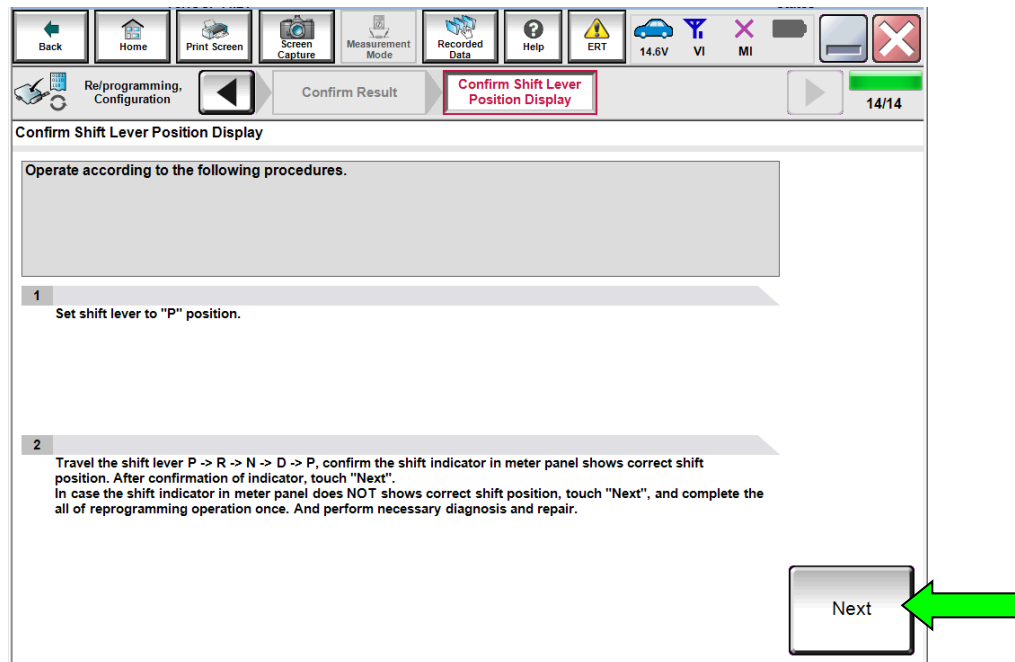

Figure 20
- Follow the C-III plus on-screen instructions (example in Figure 20); move the shift lever to each position and confirm the correct gear is indicated in the vehicle information display.